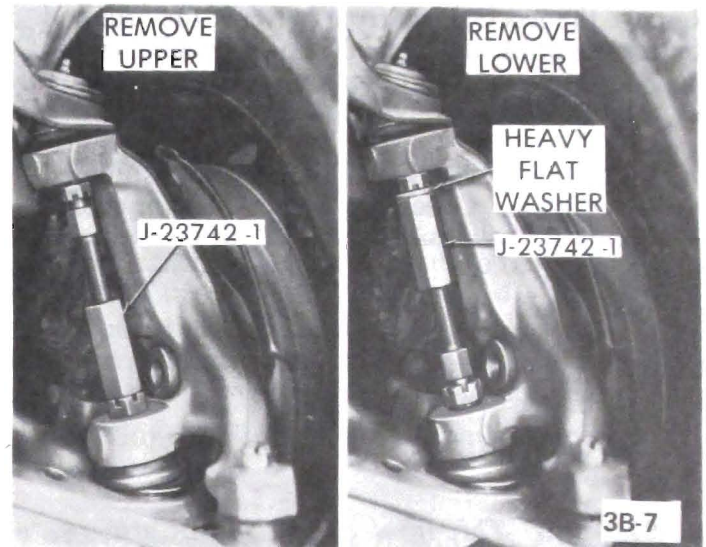

Figure 3B-7 Separating Steering Knuckle from Ball Joints
5. Install Tool J-23742-1 between ball stud and turn threaded end of tool until the ball stud is free of steering knuckle. See Figure 3B-7. Remove tool.